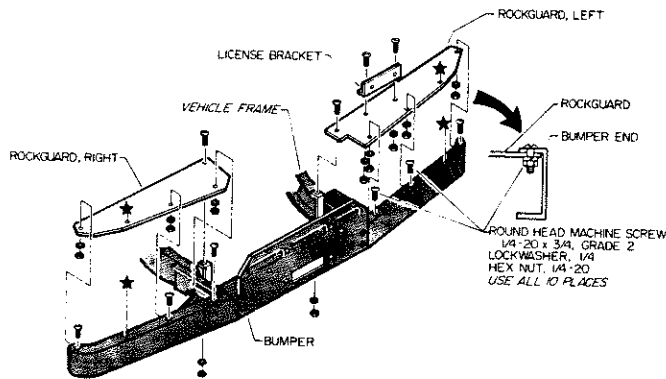

FIGURE 5
- Attach rock guards to the bumper and rock guard brackets with four 1/4-20 x 3/4" round head machine screws, lock washers, and hex nuts on each side. (See Figure 5)